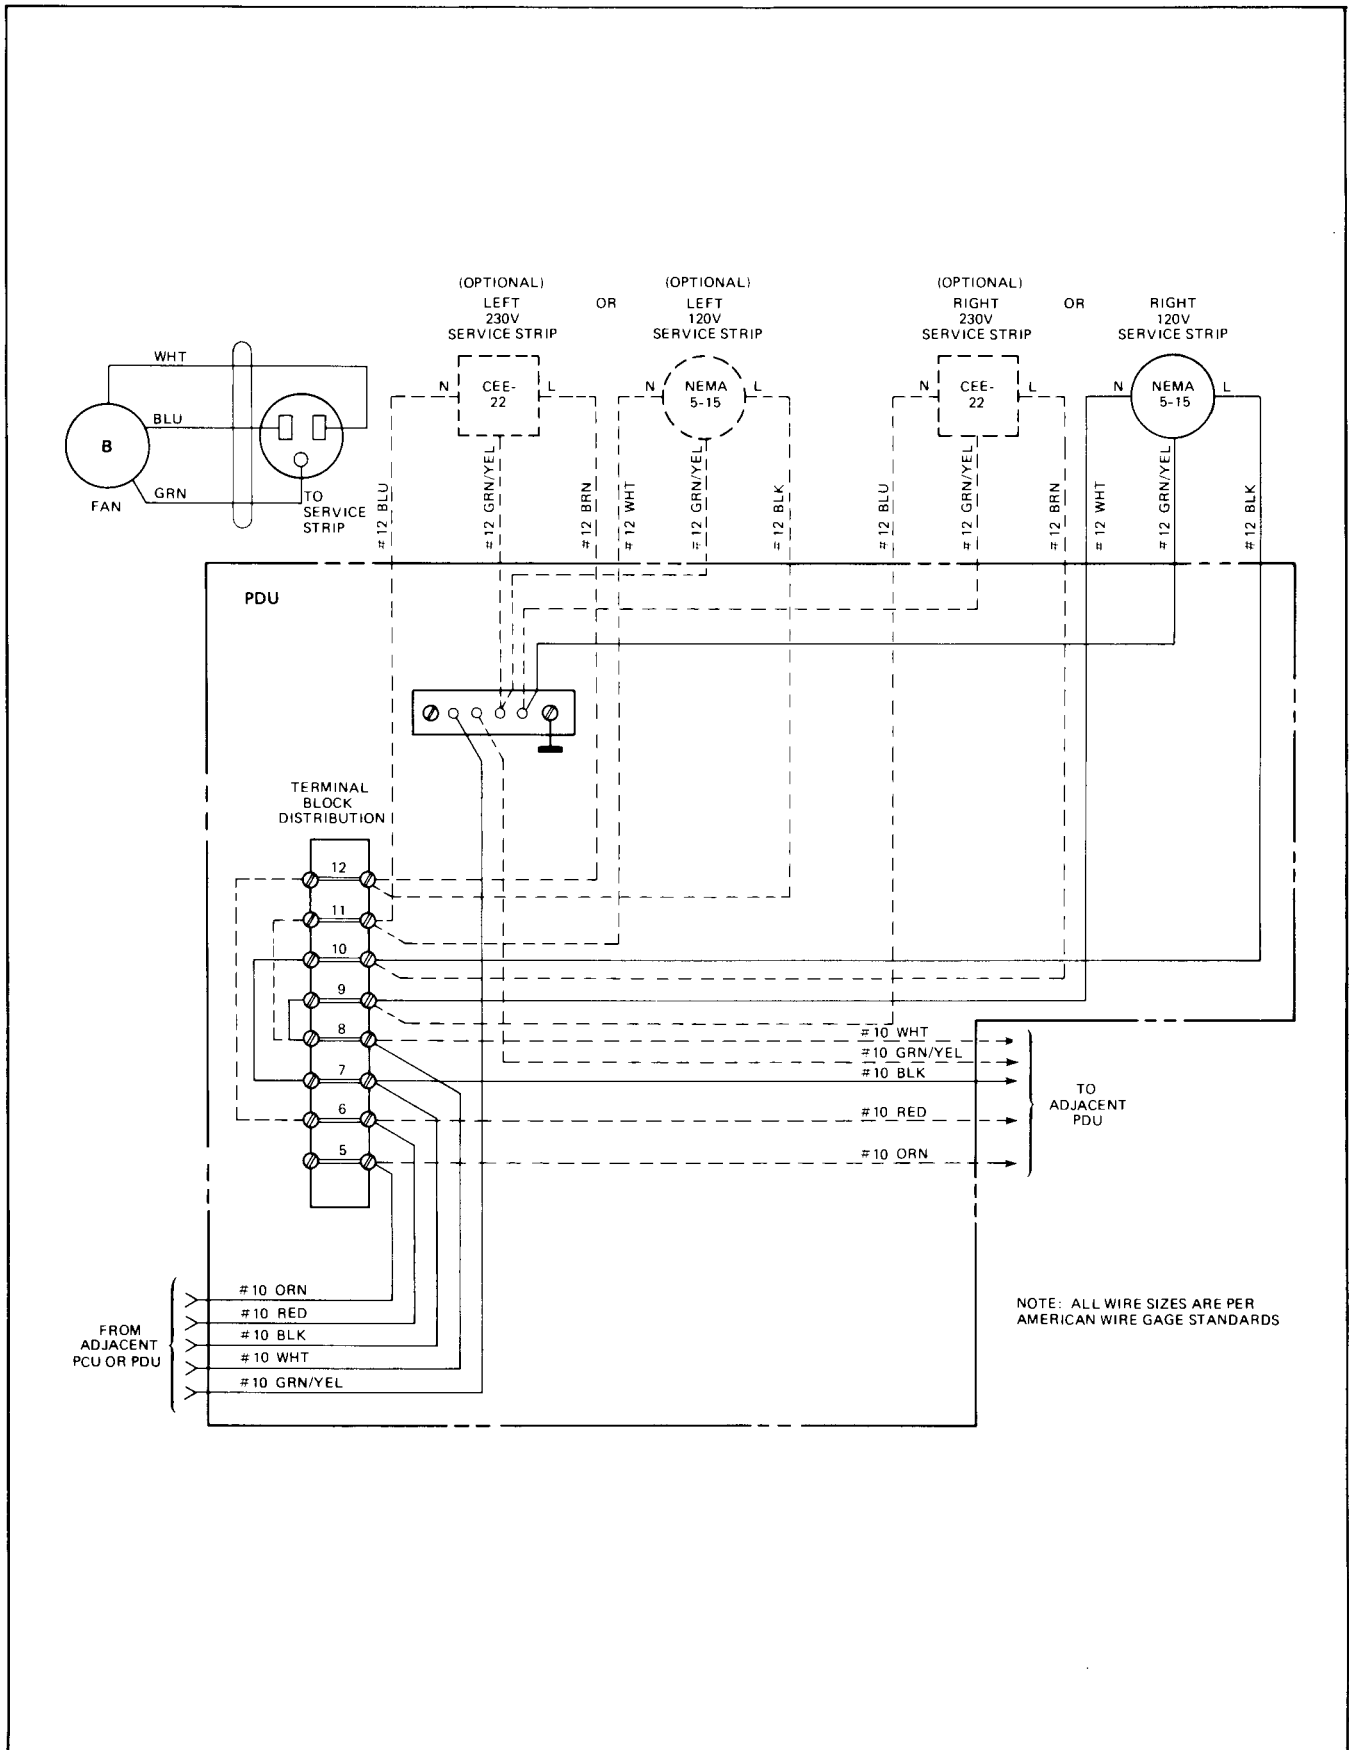

Figure 3-5. Fan Assembly Wiring Diagram
- d. Insert 5-conductor cable from new PDU through cable entry hole on existing PDU. Connect to terminal block per figure 3-5.